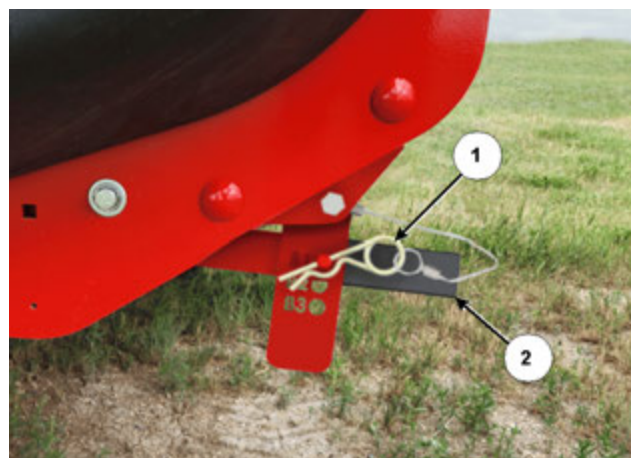

Figure 10: Adjust discharge door height
- a. Remove the spring pin (1) from the door handle pin. Move the door handle (2) up to lower the door; see *Figure 10*.